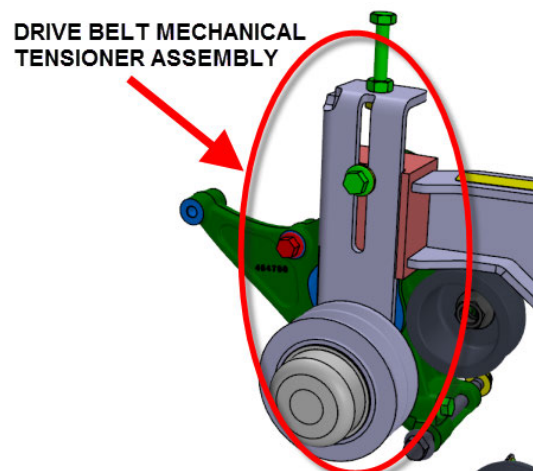

FIGURE 2
3. Remove the drive belt mechanical tensioner assembly (**FIGURE 2**).